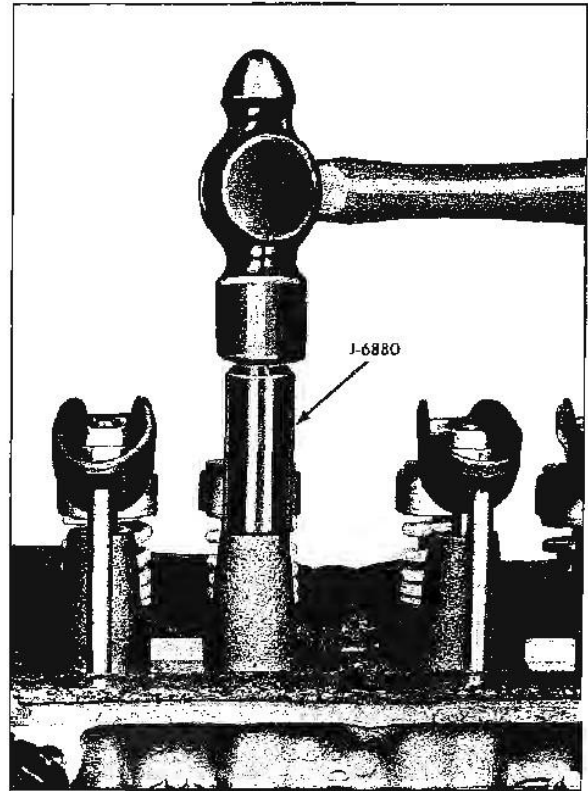

Fig. 6-28 Installing New Rocker Arm Stud
2. Install new stud, using tool J-6880. Tool should bottom on head (Fig. 6-28).